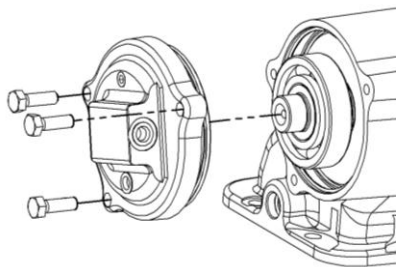

Figure 1 – Bearing Cover Removal
1. Remove the input gear (32), tapered roller bearings (30) and bearing spacer (33) by removing the set screw (27) in the mounting pad and driving the input shaft (31) from the housing (23).
2. Next, remove the intermediate gear (35), bearings (34) and cone spacer (36) by removing the hex nut (25) and driving the intermediate shaft (37) from the PTO housing (23).
3. Remove the three hex head capscrews (43) using a 9/16" wrench. Remove the bearing cover (40) from the PTO housing (23). *See figure 1.*